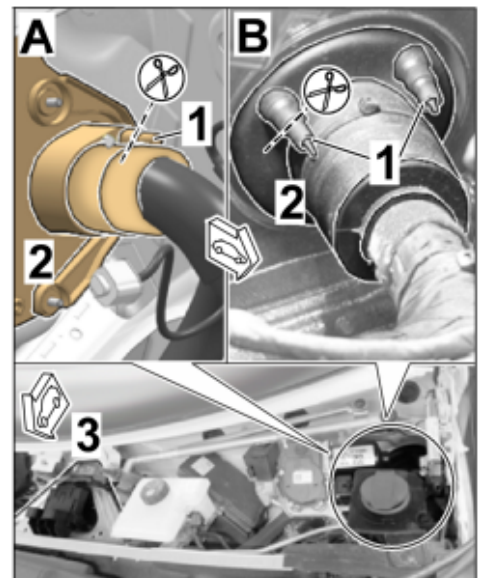

Figure 16
2.3.1 Cut off the cone (repair opening) on the grommet on the firewall (in the A-pillar plenum panel area – left) (⇒ Figure 16).
2.6 Seal the wire harness for engine noise at the bushing in the passenger compartment (grommet on firewall; A-pillar plenum panel area – left ⇒ *Figure 16*) from the inside and outside using adhesive sealant / sealing compound.